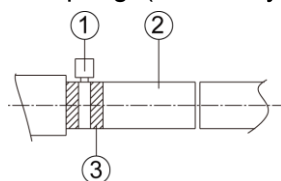

Fig 4.3.2
- (1) Insert the drain hose into the drain hole and tighten it with tapes, as shown in Fig 4.3.2.
- (2) Tighten the pipe clamp, with the distance between screw nut and hose smaller than 4mm (1/8inch).
- ① metal clamp(accessory)
- ② drain hose(accessory)